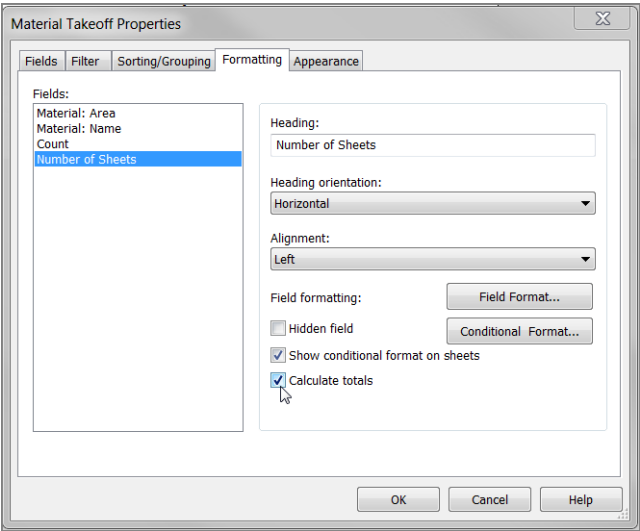

FIGURE 11.36: Selecting the Calculate Totals option
- 9. Click the Formatting tab, as shown in Figure 11.36.
11. In the Field Formatting section, select Calculate Totals (see Figure 11.36).